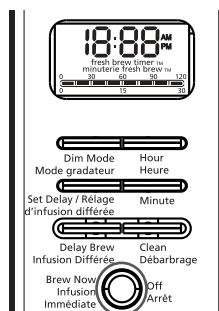

FIGURE 9
4. Press the **CLEAN** button until the **CLEAN** indicator light turns on (Figure 9). For your convenience the cleaning cycle is automatic. The entire cycle will take 45–60 minutes to complete.